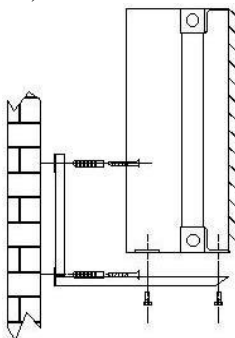

Figure 3 – fan heaters mounting
7.3. Heaters are mounted vertically to the wall with a help of mounting bracket which is included in delivery kit (Figure 3).